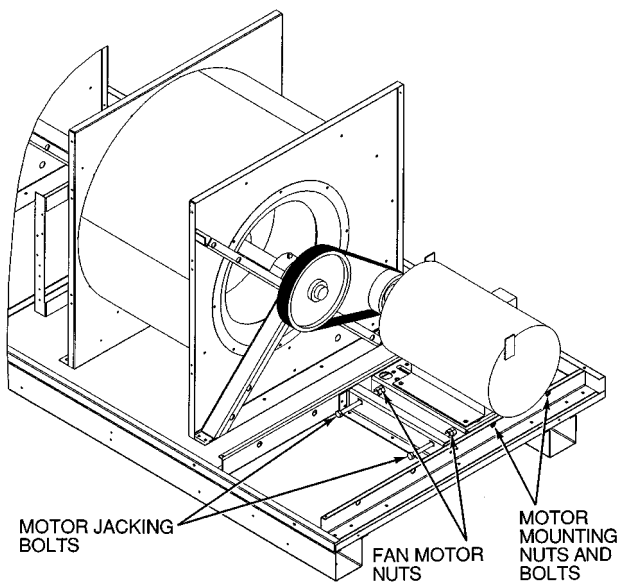

Fig. 50 — Belt Tension Adjustment
2. Loosen motor mounting nuts and bolts. See Fig. 50.